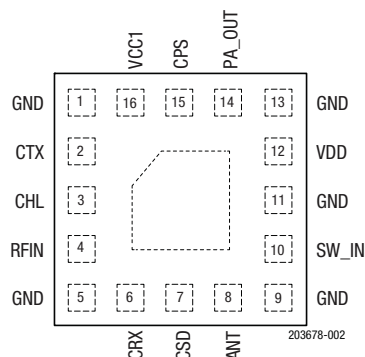
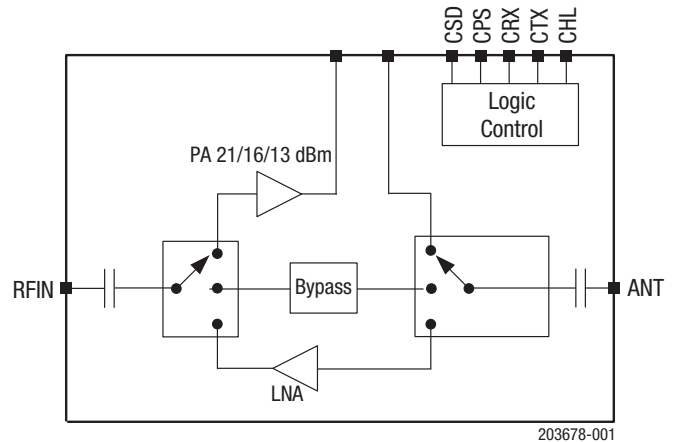

Figure 2. SKY66114-11 Pinout (Top View)
Figure 1. SKY66114-11 Block Diagram
- Low noise figure: 2 dB typical
A functional block diagram is shown in Figure 1. The SKY66114-11 is provided in a small, 16-pin, 2.4 $\times$ 2.4 mm Multi-Chip Module (MCM) package. The pin configuration and package are shown in Figure 2. Signal pin assignments and functional pin descriptions are provided in Table 1.